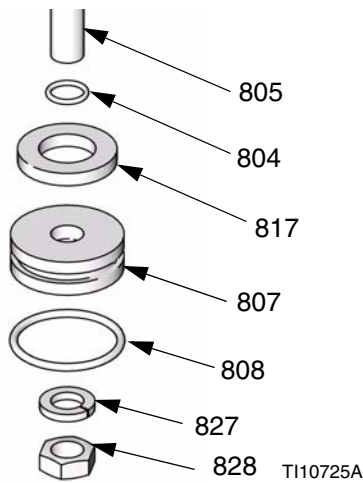

FIG. 35: Short Dual Post Piston
4. Lay piston rod (805) on a bench or other work surface.
5. Remove nut (828), washer (827), piston (807), bumper (817), and two o-rings (804, 808). See FIG. 35.